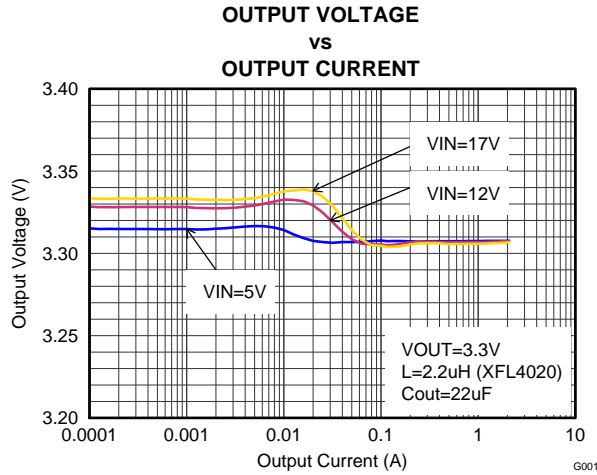
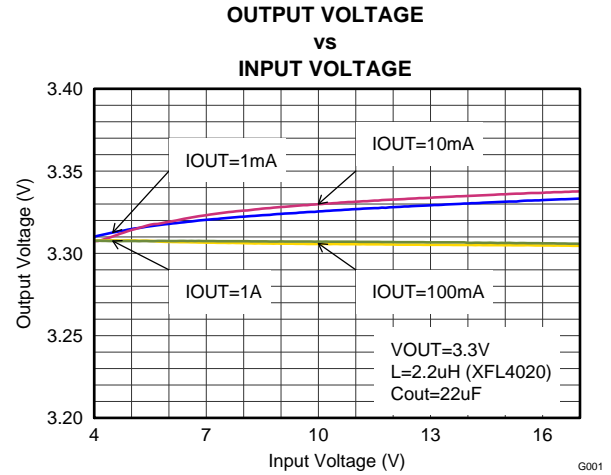

Figure 17. Output Voltage Accuracy (Load Regulation)
Figure 18. Output Voltage Accuracy (Line Regulation)
- (1) The device is still functional down to undervoltage lockout (see parameter V_{UVLO}).
- (2) Current into AVIN + PVIN pins
- (3) This is the static current limit. It can be temporarily higher in applications due to internal propagation delay (see Current Limit and Short Circuit Protection section).
- (4) This is the voltage regulated at the FB pin.
- (5) This is the accuracy provided by the device itself (line and load regulation effects are not included). For the fixed-voltage versions the (internal) resistive divider is included.
- (6) Line and load regulation depend on external component selection and layout (see Figure 17 and Figure 18).